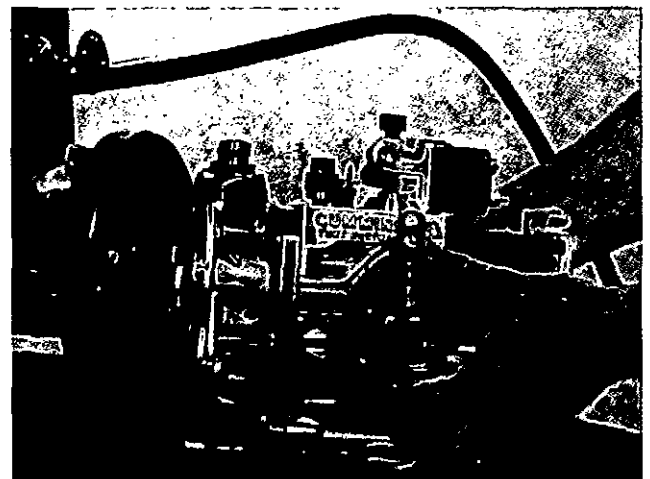

Fig. 10-1, (F5168). Mount the fuel pump with the buffer type drive.
1. Install the correct drive coupling to the test stand. The drive shaft coupling of the fuel pump and the test stand must be of the same design, Fig. 10-1 and 10-2.